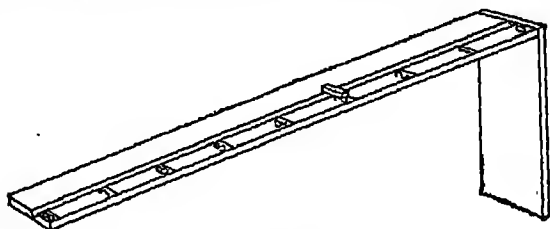

FIG. 130. Galileo's experiment.
**Expt. 220.** Arrange an inclined plane from 8 to 10 ft. long with a shallow groove along which a metal ball can roll (Fig. 130). A large ball-bearing is suitable for the purpose. Graduate the board clearly in feet. Place a piece of wood as a stop at the 1 ft. graduation. Hold the ball at the 0 graduation and have a stop-watch in the other hand. Release the ball and start the stop-watch at the same time. When the ball hits the wooden stop press the stop-watch. Note the time. Repeat